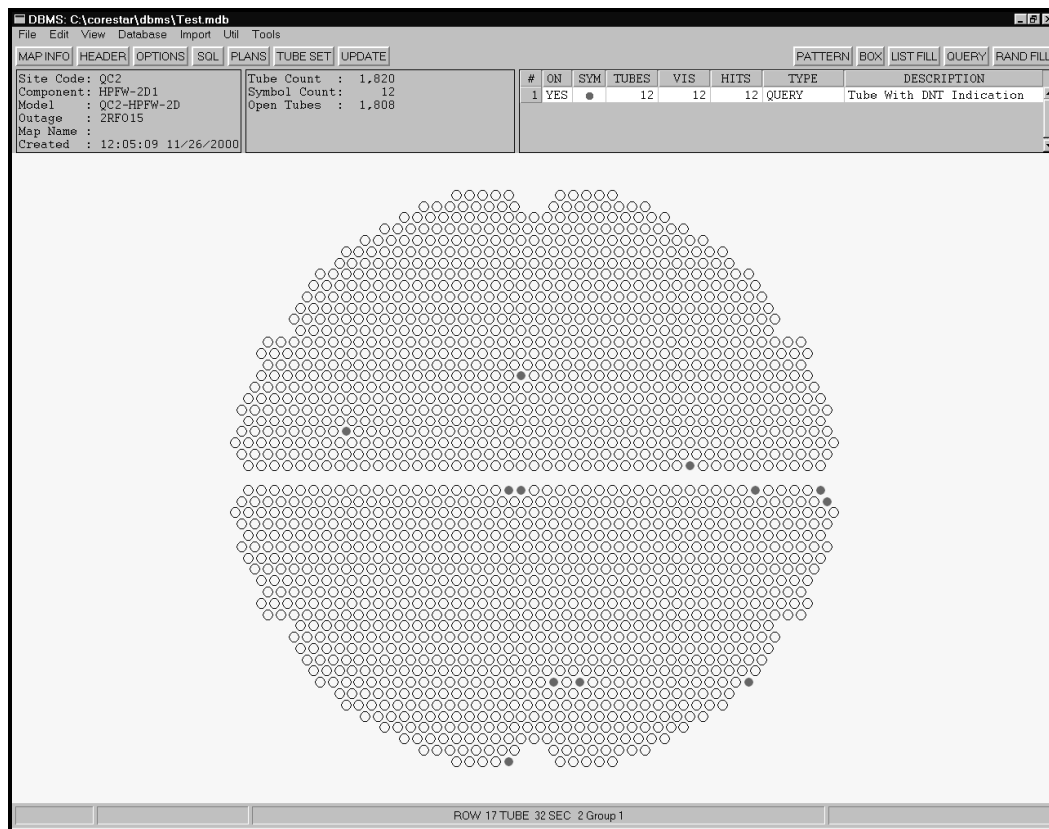

Figure 5-6. Map With Query Plotted
20. Click in the **description** field in the legend. Type the description "Tube With DNT Indication". Your screen should look something like Figure 5-6.